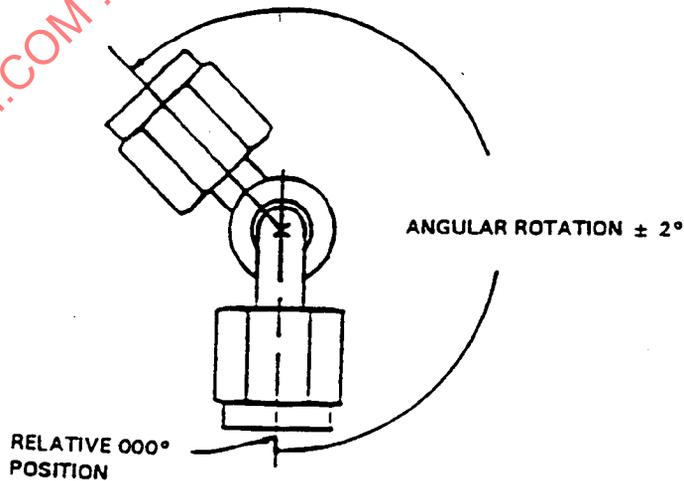

FIGURE 2
- /18/ THE FITTING'S ORIENTATION DASH NUMBER IS A THREE DIGIT NUMBER DEFINING THE RELATIVE POSITION OF THE END FITTINGS IN 1° INCREMENTS (EXAMPLE 090 = 90°). FITTING ORIENTATION SHALL BE MEASURED COUNTERCLOCKWISE FROM THE NEAREST END FITTING, WHICH SHALL BE IN THE RELATIVE 000° POSITION (SEE FIGURE 2). WHEN END FITTINGS ARE POINTED IN THE SAME DIRECTION, THIS DASH NUMBER SHALL BE 000.